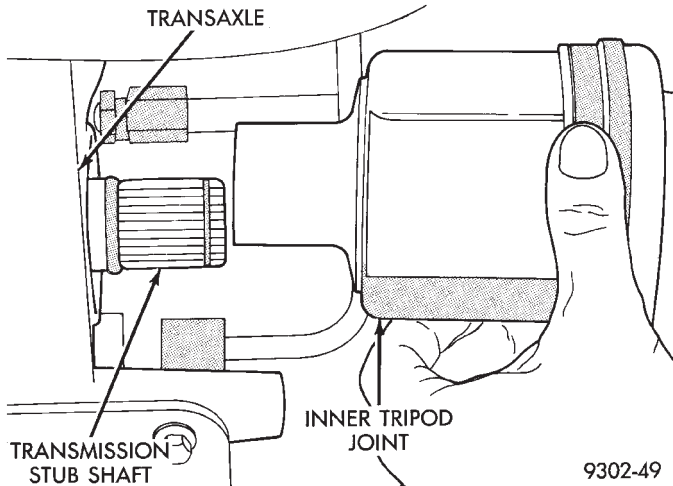

Fig. 11 Inner Tripod Joint Removal From Stub Shaft
(13) Remove driveshaft inner tripod joint from transaxle stub shaft. **When removing driveshaft, do not pull on interconnecting shaft to remove inner tripod joint from stub shaft. Removal in this manner will separate the spider assembly from the tripod joint housing.** Grasp inner tripod joint (Fig. 11) and interconnecting shaft and pull on both pieces at the same time.